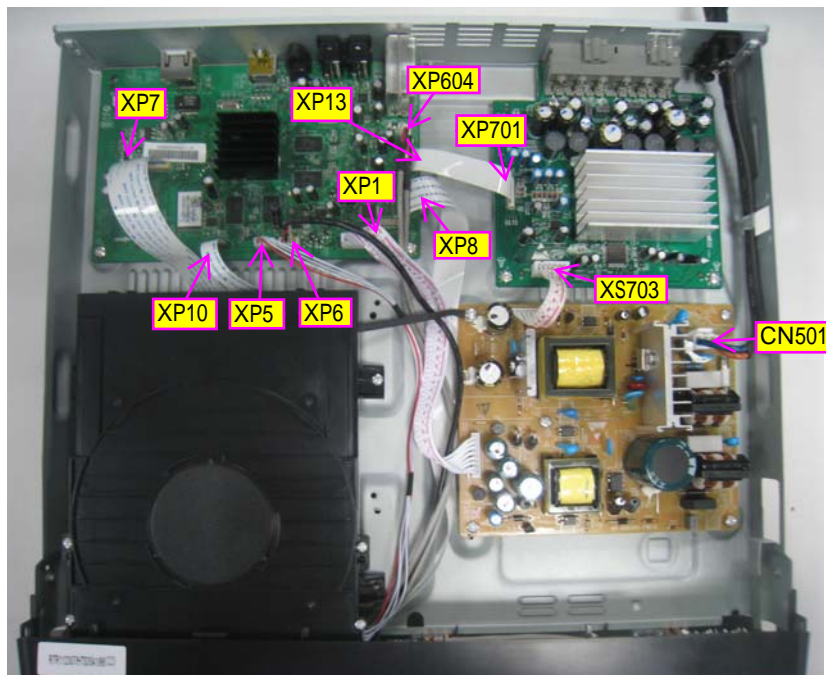

Figure 6
Step6: Dismantle Main Board, first disconnect 2 connectors (XP1, XP13), and then remove 6 screws. (Figure 6)
Step7: Dismantle Power Board, disconnect the connectos XS703 and CN501 on Power Board,then remove 5 screws.(Figure 6)
Step8: Dismantle Amplifier Board, remove 4 screws(Figure 6)